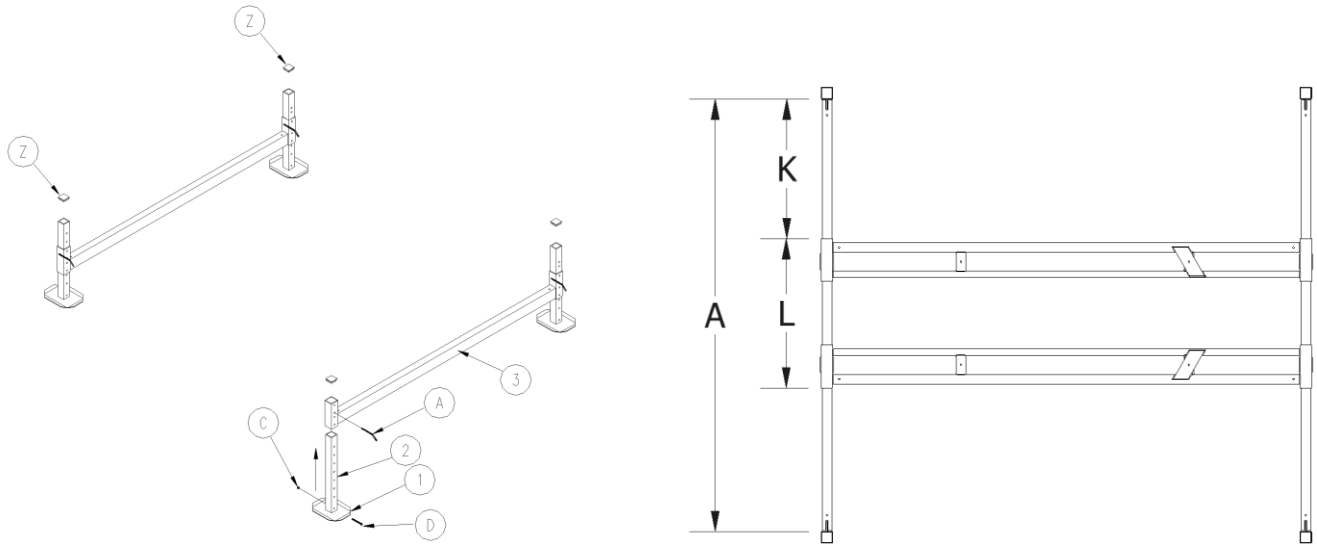

Figure 3-1. Leg Frame Assembly and Marking for Main Frame Alignment
1. Refer to Figure 3-1. Fasten foot plate (1) to extension leg (2) using hardware (C) and (D).
2. Insert foot plate and extension leg assembly into leg assembly (3) at the desired height. Insert pin (A) and secure with hairpin.